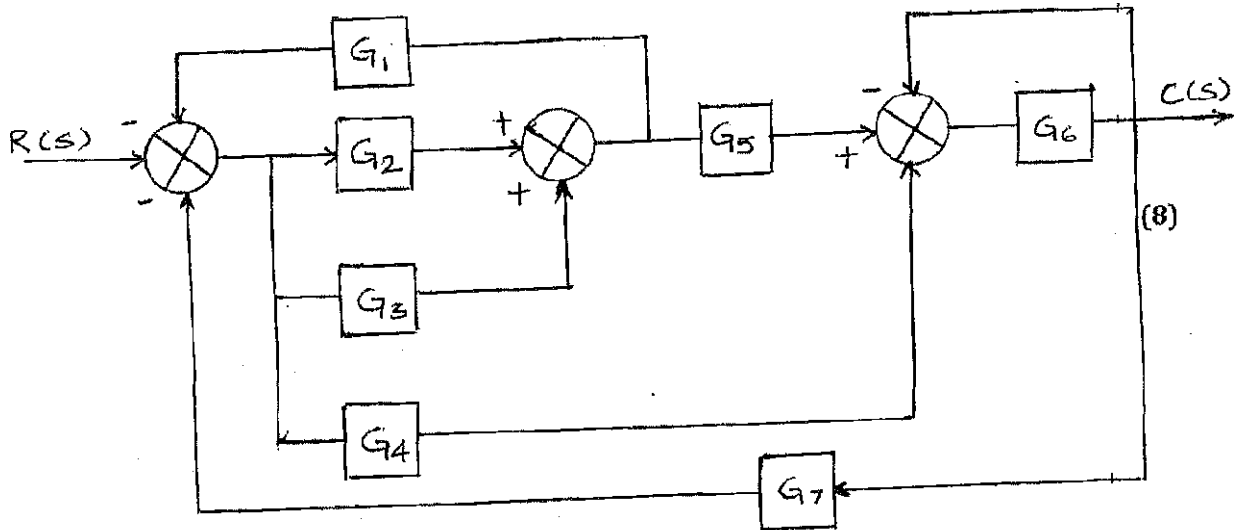

Fig. 1
b) Reduce the following block diagram shown in fig. 1 into single equivalent block by block reduction techniques. 8